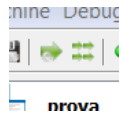
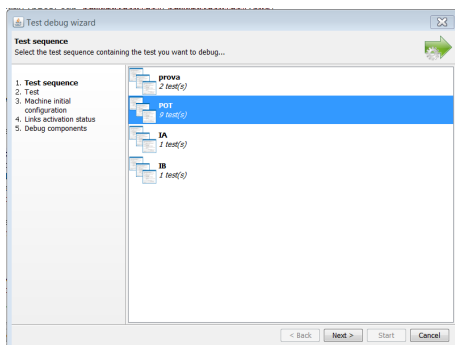
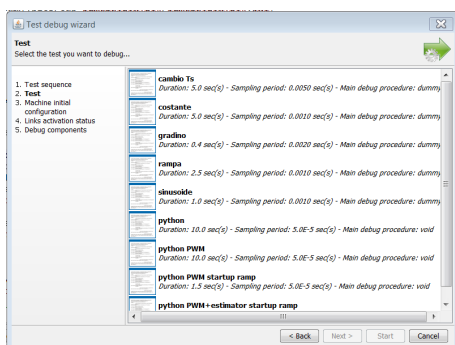

Figure 7.2: The *Launch Test* (left) and the *Launch Test Sequence* (right) buttons.
Figure 7.3: Choose a test sequence from the list and click Next
Figure 7.4: Select the test you want to execute and click Next
- From any view in $\mu\text{Lab}^{\text{®}}$: click the *Launch Test* or the *Launch Test Sequence* buttons (Figure 7.2) to show the Test Sequence selection screen (Figure 7.3). Note that pressing the *Launch Test Sequence* button causes all of the contained Tests to be run one after another, sequentially. Moreover, every test is unrelated from the others (i.e. machine states don't carry over between two consecutive tests).
- From the *Test Sequences View*: if a Test Sequence and eventually also a Test are selected in this view, click the *Launch Test* or the *Launch Test Sequence* buttons; the selection made will bypass the Test Sequence selection screen (Figure 7.3) and bypass also the Test selection screen (Figure 7.4), if also a Test is selected in this view or the *Launch Test Sequence* button has been pressed.
The simulation flow can be controlled with the buttons shown in Figure 7.2.